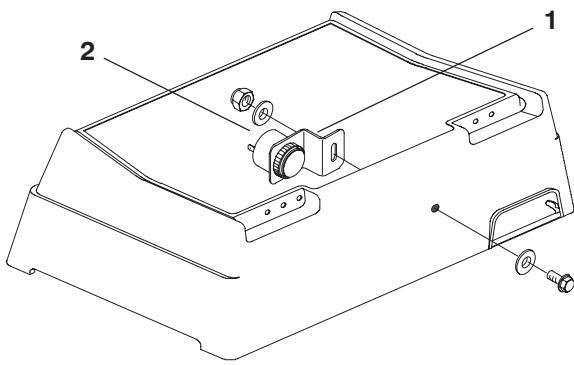

Figure 10
- Mount alarm bracket to console with a 1/4–20 x 3/4" lg. capscrew, (2) 1/4" washers and locknut supplied in kit. Position bracket, fasteners and alarm as shown in figure 10.